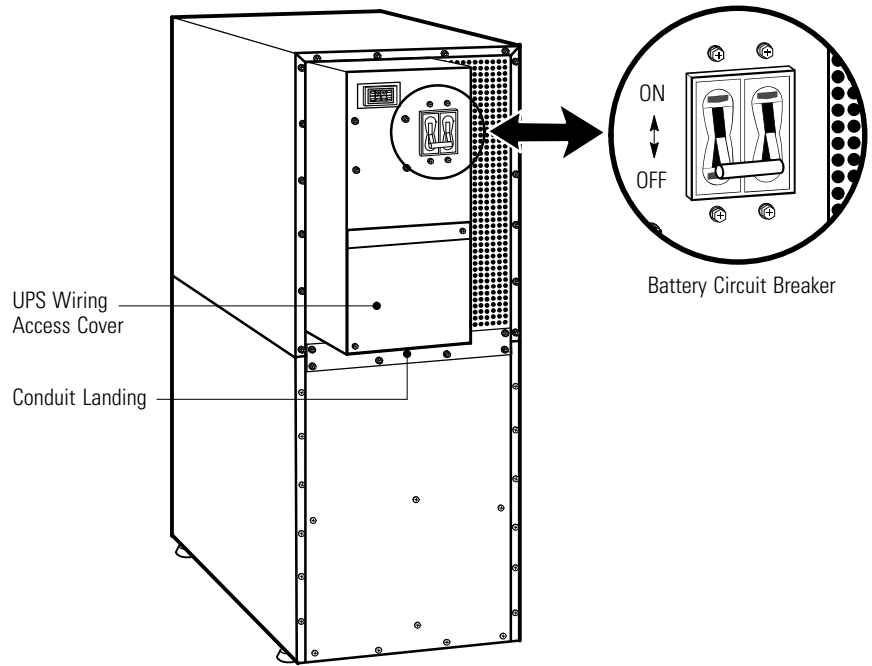

Figure 6. UPS Rear View
5. Verify that the UPS battery circuit breaker is in the OFF position (see Figure 6).
- 6.** Remove the UPS wiring access cover and retain (see Figure 6).